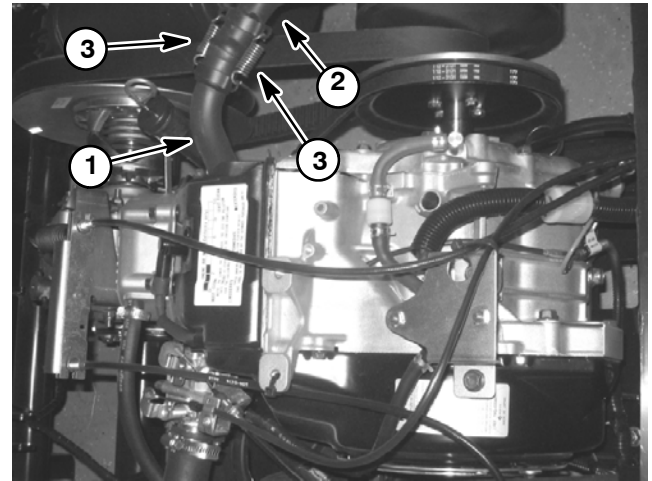

Figure 5
3. Remove four (4) springs securing the exhaust coupler to the muffler and exhaust manifold (Fig. 5).
4. Remove two (2) cap screws and lock washers securing the muffler to the swing arm.
6. If needed, remove exhaust manifold from engine by removing two (2) nuts. Remove exhaust gasket and clean gasket surfaces of manifold and engine.